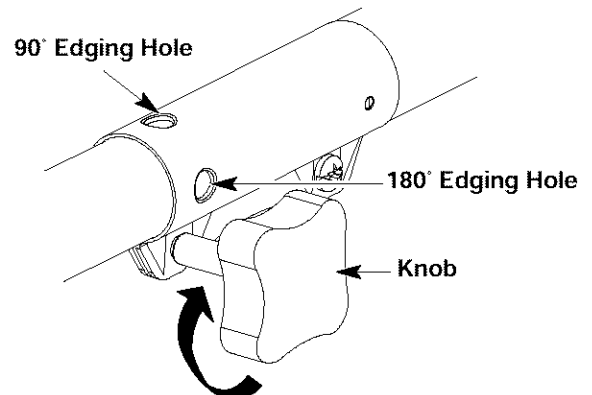

Fig. 16
3. Turn the knob clockwise to tighten (Fig. 16).
For edging when using the line head cutting attachment with EZ-Link™ models, lock the release button of the cutting attachment into the **90° edging hole** or the **180° edging hole** (Fig. 16).